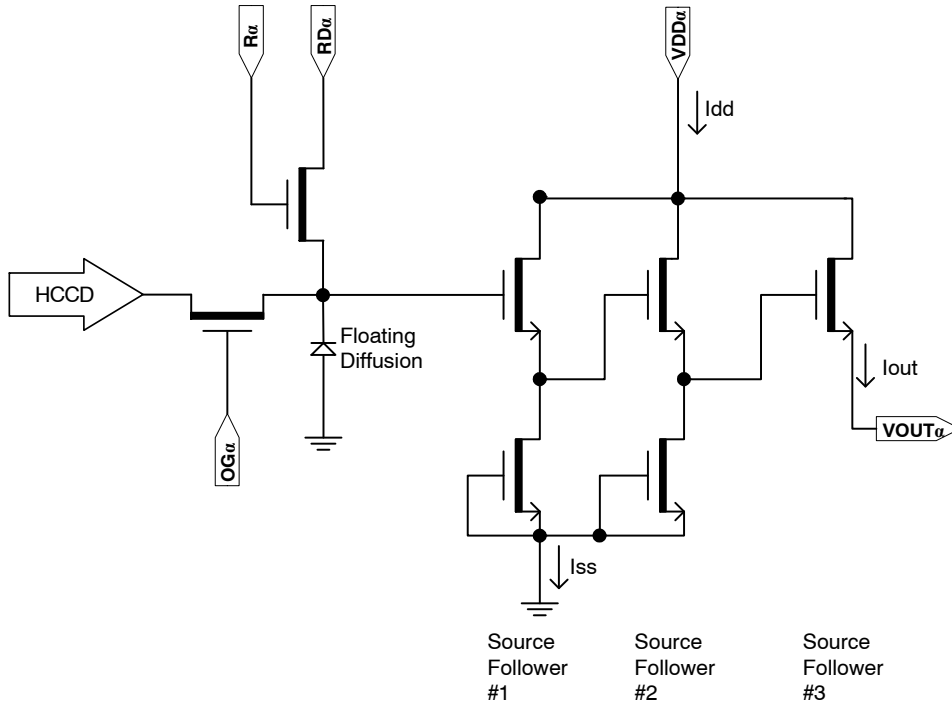

Figure 19. Output Amplifier
- The maximum DC current is for one output. Idd = Iout + Iss. See Figure 19.